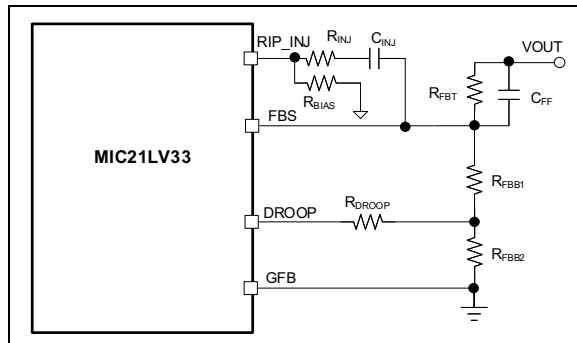

FIGURE 4-19: AVP Implementation for 5V Output with 2% AVP Range for DROOP Pin Range 0V to 600 mV.
The part of the schematic to implement the AVP for a 5V output is shown in Figure 4-19. The underlying assumption is that the current sense is done using sense resistors independent of temperature.
Step 3: The R_{FBB1} is slightly adjusted to get $V_{OUT} \times (1 + \varepsilon)$ for $I_{OUT} = 0A$. The result is in Figure 4-19.